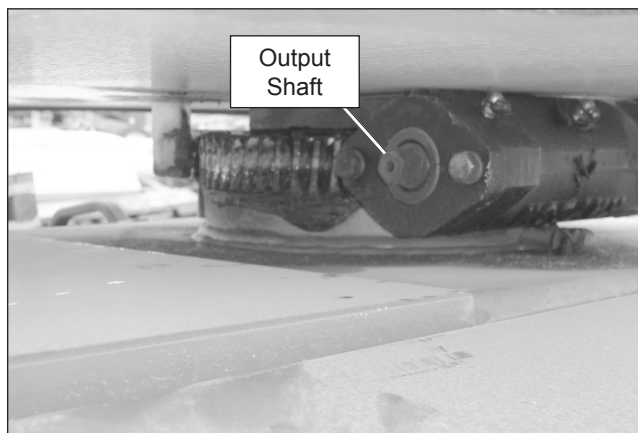

Figure 8.11 – Rotation Worm Drive
1. Connect a 7/8" socket and ratchet to the rotation worm drive output shaft (refer to Figure 8.11).